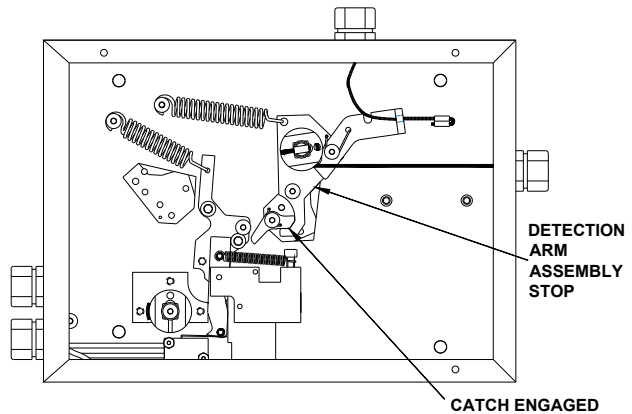

Figure 4-45.
4. Continue to turn clockwise until all the slack has been removed and the Detection Arm just touches the STOP located on the Detection Arm Block, fully engaging the Catch. See **Figure 4-45**.
1. Make sure the Detection Arm is against its STOP. Refer to **Figure 4-45**.
2. Check the Catch to make sure it is moving freely and properly engaged with the Detection Arm. Refer to **Figure 4-45**.